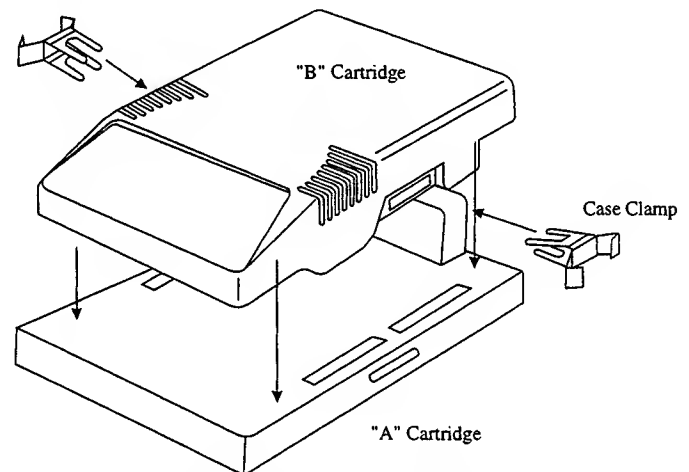

Figure 10 : Case Clamp Installation
2. To remove the existing “B” cartridge from the “A” cartridge, pull the old case clamps apart (see Figure 10). Carefully remove the old “B” cartridge and install the new “B” cartridge. Re-install the case clamps.